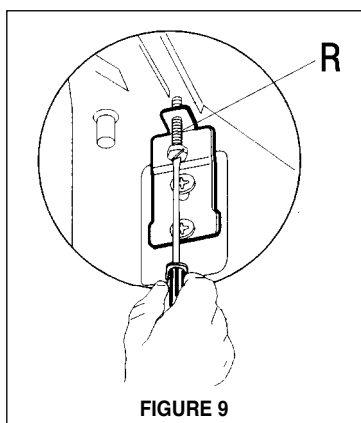

FIGURE 9
5. Level the canopy. The height and level of the canopy can be adjusted by rotating the adjustment screws (Item R in FIGURE 9) on each side of the blower inside the rangehood